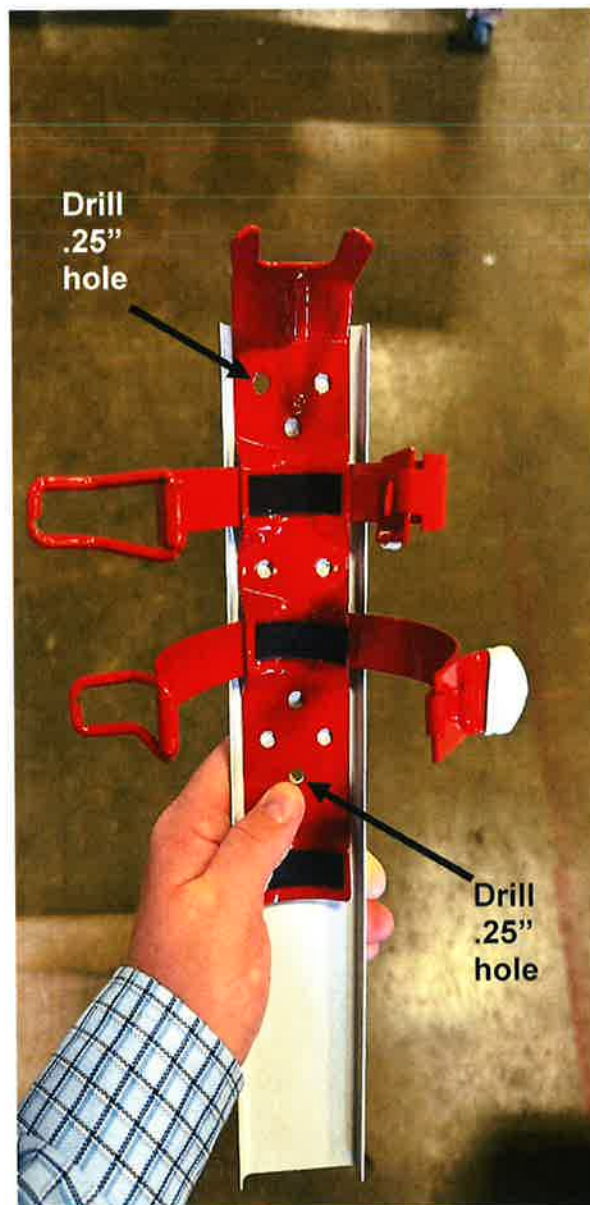

Figure 8-1
3. Locate the red fire extinguisher mount (red mount) to the white bracket (262020002-001) in the proper position as shown in Figure 8-1.
7. Reposition the red mount to the white bracket as done prior. (Reference Figure 8-1)